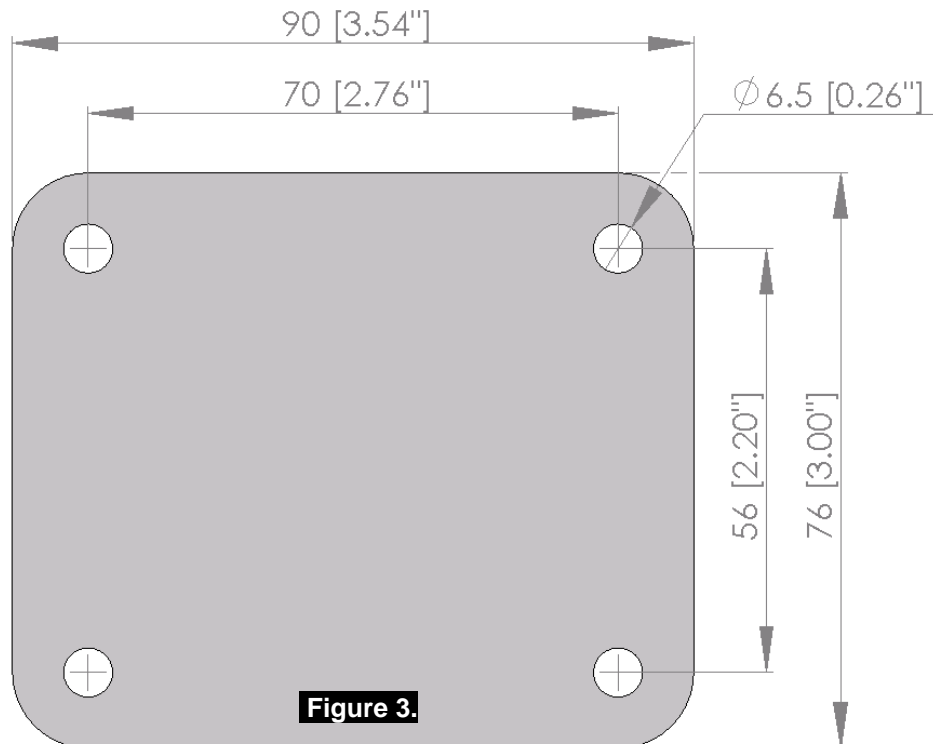

Figure 3.
- ☐ Establish the mounting hole locations for the compressor by using the compressor backing plate as a template, or referring to Fig.3. for exact sizes.